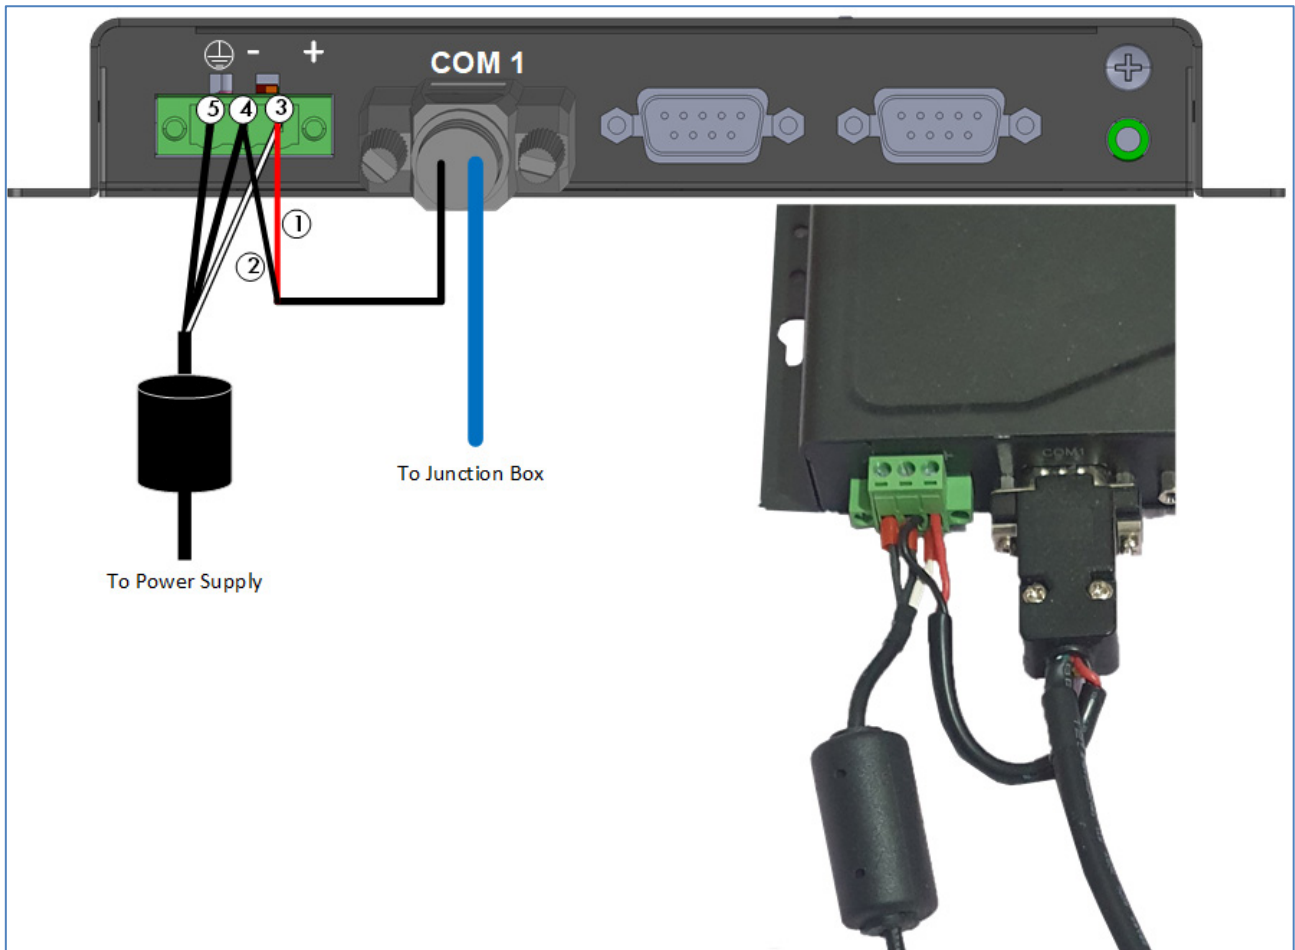
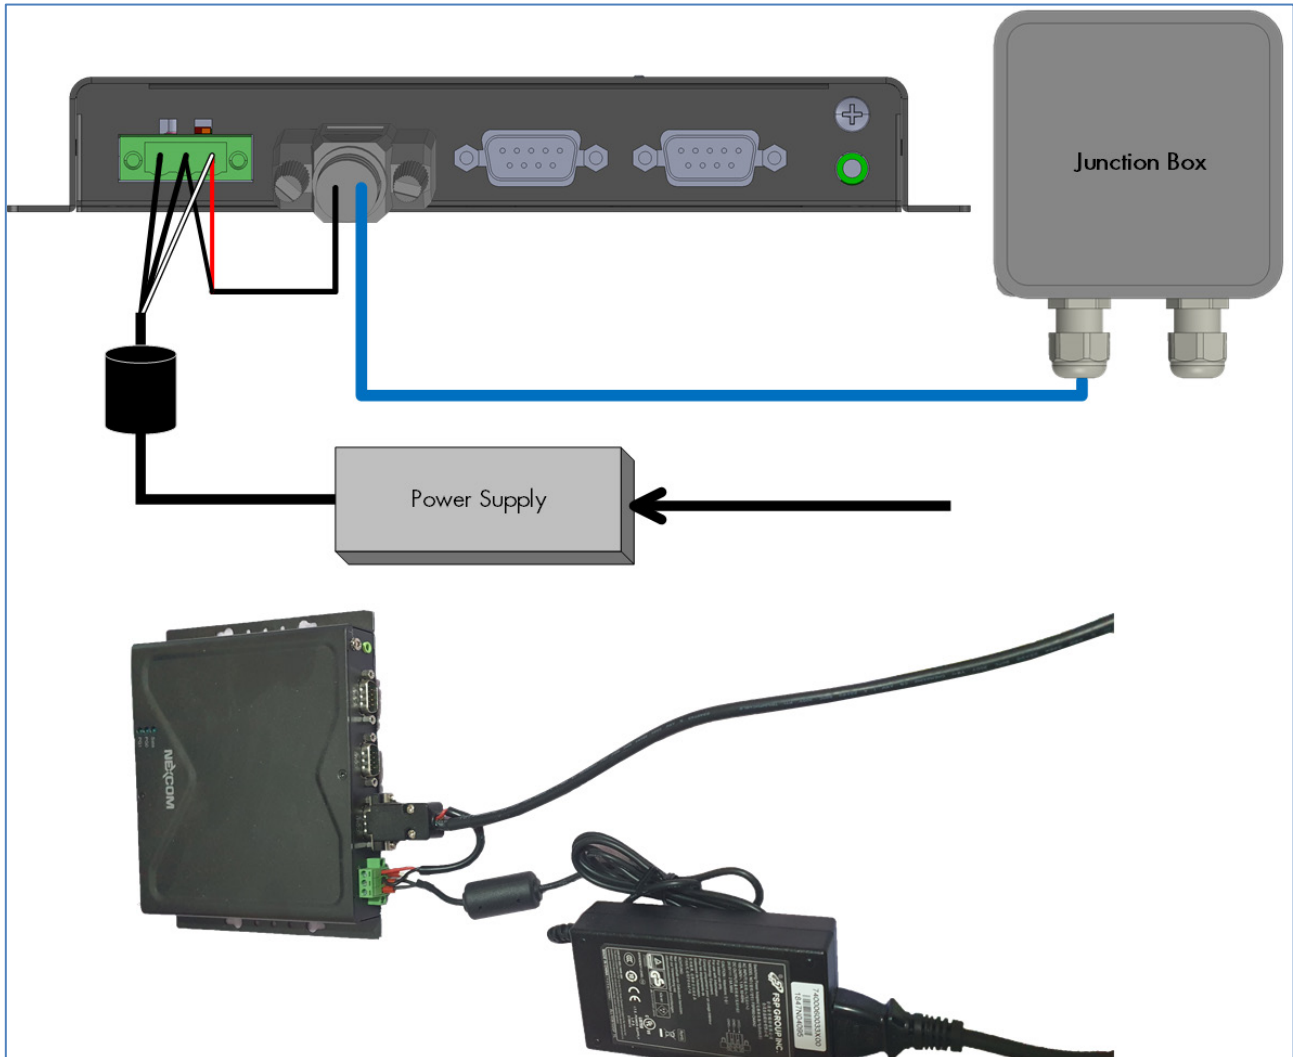

Figure 11: Junction Box Wiring to Comm-Box
Figure 12: Power Supply – Comm-Box – Junction Box Setup
2. Insert the two wires coming from the Junction Box cable into the ports (see Figure 11 and Figure 12).